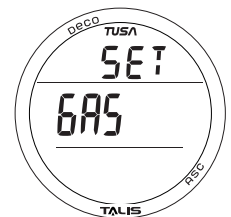

Fig. 27 - SET GAS LEAD-IN
- A & S (2 sec), while viewing NORM Surface Main - to access the SET GAS lead-in screen (Fig. 27).